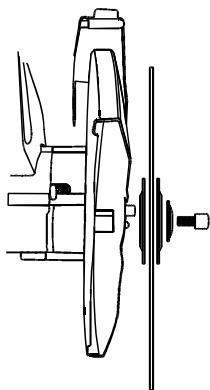

Figure 11
5. Remove the arbor cap screw, the small outer washer, the large outer washer, the cut-off disc and large inner washer from the arbor. (Figure 11)